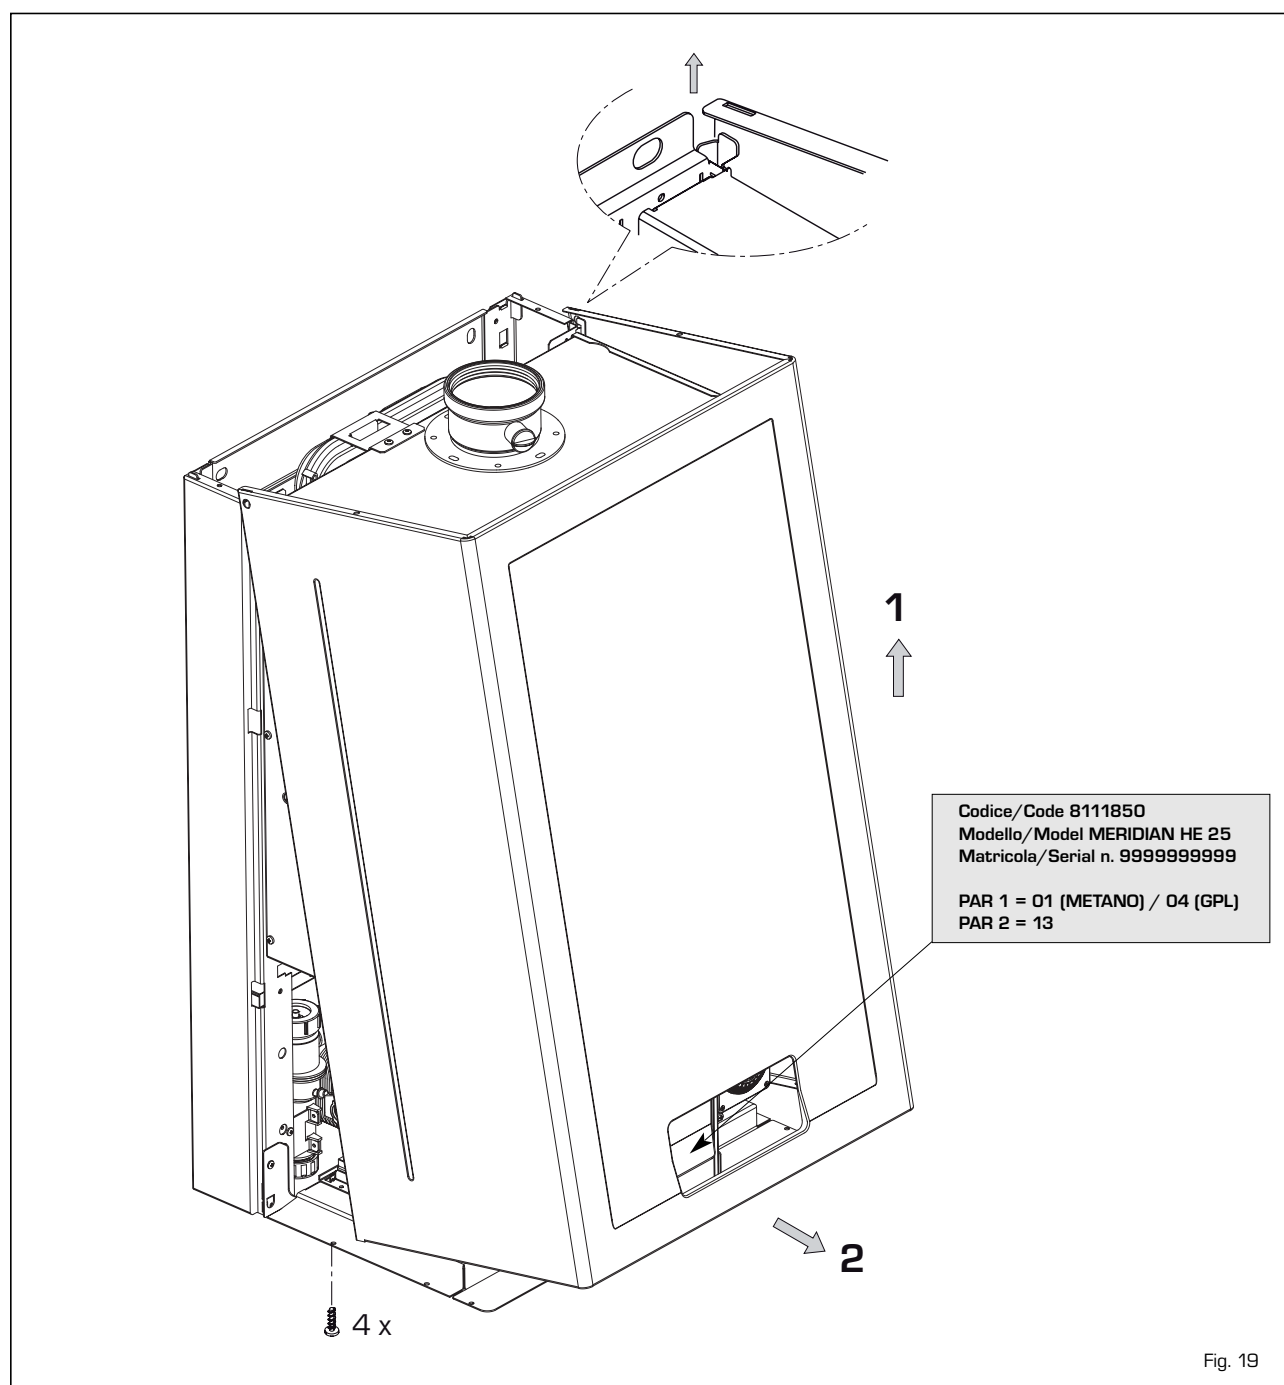

Fig. 19
4.4 DISASSEMBLING THE SHELL (fig. 19)
To simplify maintenance operations on the boiler, it is also possible to completely remove the shell, as shown in figure 19.